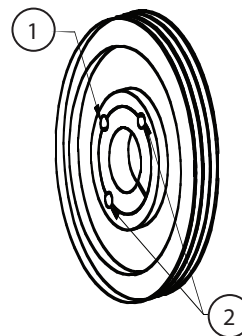

Figure 6-12: Diagram of belt pulley and taper lock bushing assembly
2. Install one grub screw into the jacking/disassembly hole. Refer to *Figure 6-12*.